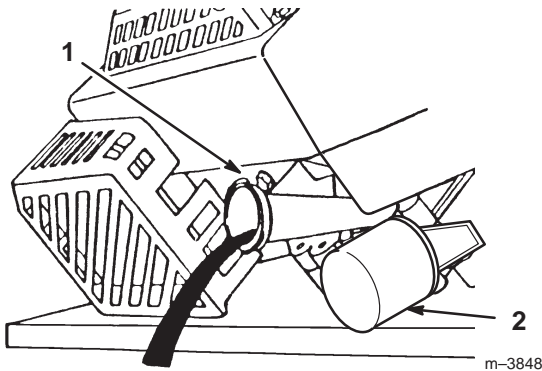

Fig. 3
4. Tip mower on its left side, allowing oil to drain into drain pan (Fig. 3).